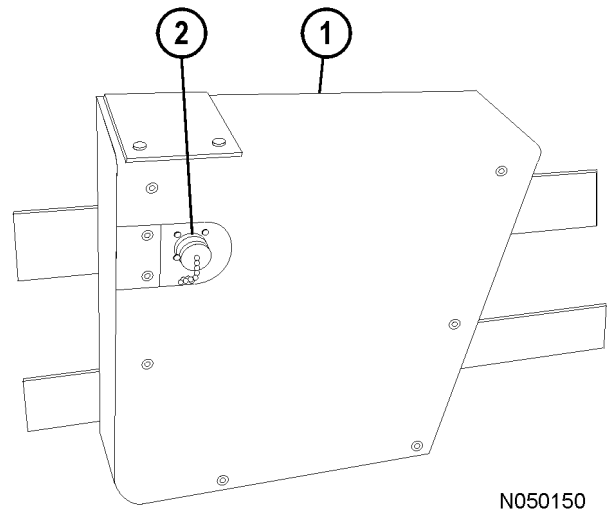

FIGURE 3-5. PAYLOAD METER 3
The Payload Meter (1, Figure 3-5) and Download Connector (2) are used to provide management with operational data such as tonnage hauled and cycle times.
This connector (2, Figure 3-5) is used with a special cable to allow the Payload Meter (1) to communicate with a Portable Computer.